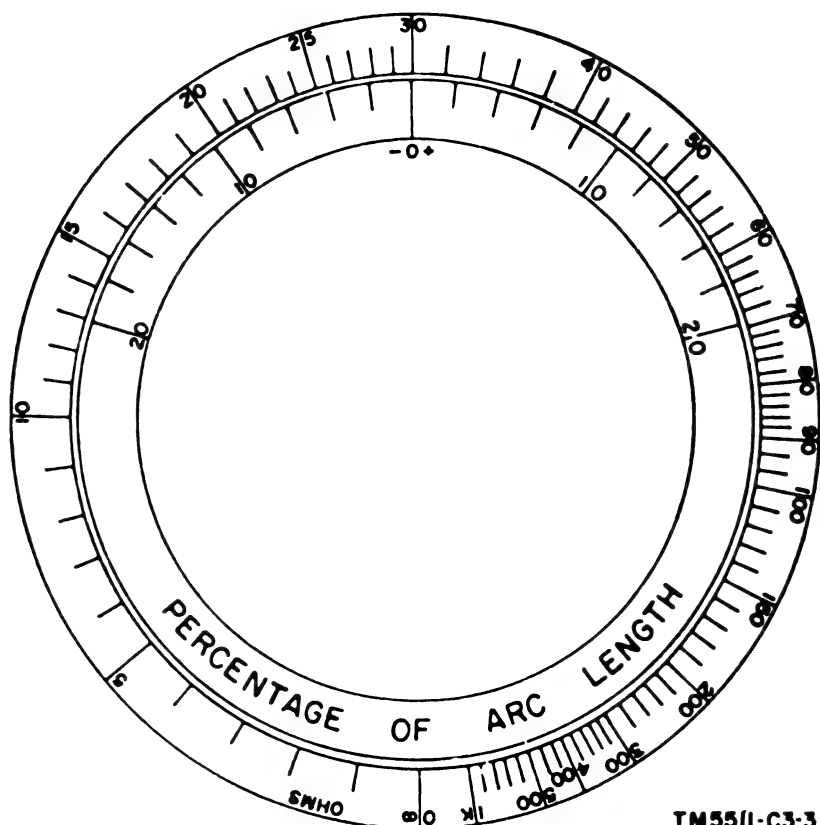

Figure 4.3. (Added) Computing device for determining limits of acceptability for resistors tested with Electronic Multimeter TS-505/U.
- (3) A computing device similar to the one illustrated in figure 4.3 and calibrated as shown can be constructed of cardboard. The center scale can then be made to rotate and the device used as an aid for determining the limits between which a resistor tested with Electronic Multimeter TS-505/U is acceptable. The following examples show the step-by-step procedure for using the computing device.